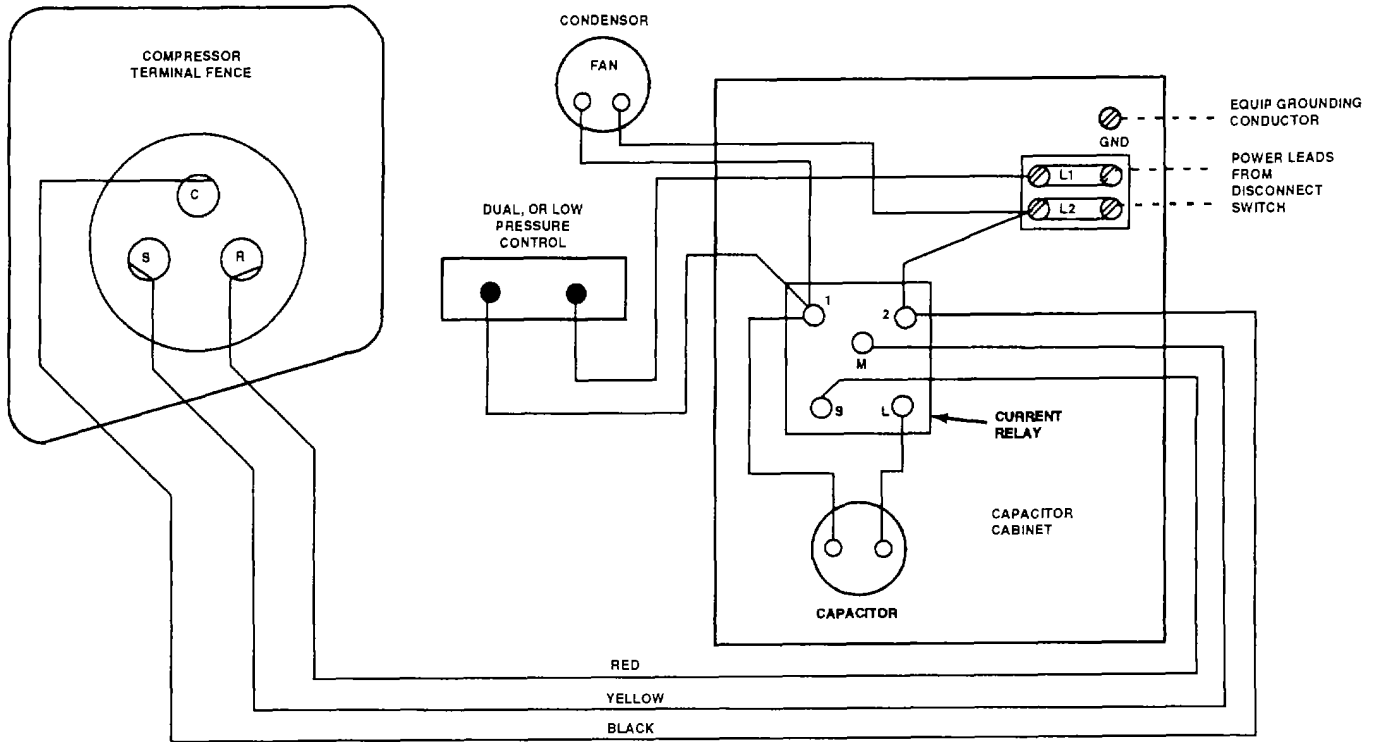

Figure 6-27. Control Box Electrical, Schematic.
(1) *Test relay.* (figure 6-27)
(b) Apply power to chamber. Using a multimeter, test for voltage across terminals 1 and 2 of relay (refer to schematic, figure 6-27).